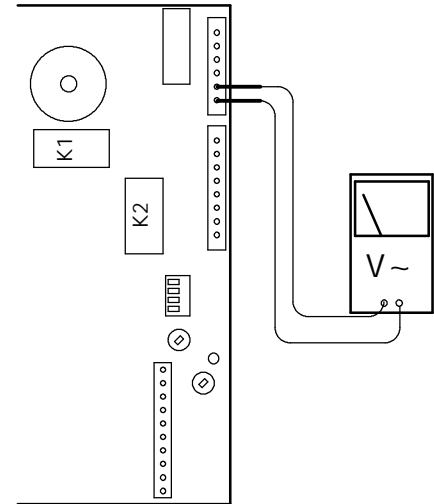

fig. 63
- 2 Connect a meter, set for alternating voltage (230V) measurement, to the points indicated in fig. 63.